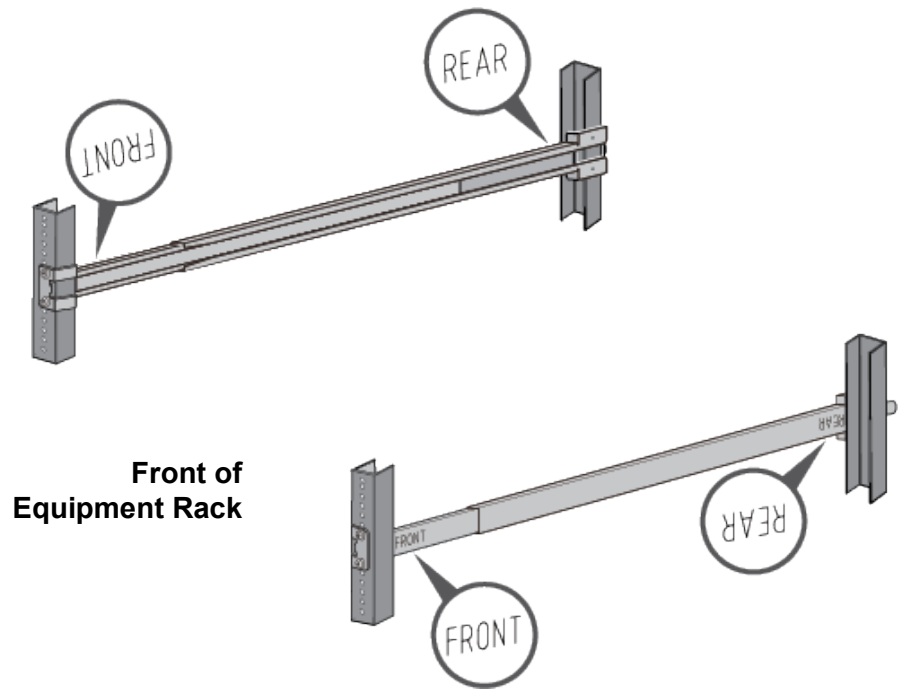

Figure 101. Installing the Outer Rails on the Equipment Rack
2. Attach the outer rails to the equipment rack using the supplied screws. Use four screws per rail. Refer to Figure 101 on page 175. Installing the switch can be easier if you leave the screws slightly loosened now and fully tightened them after the switch is installed.